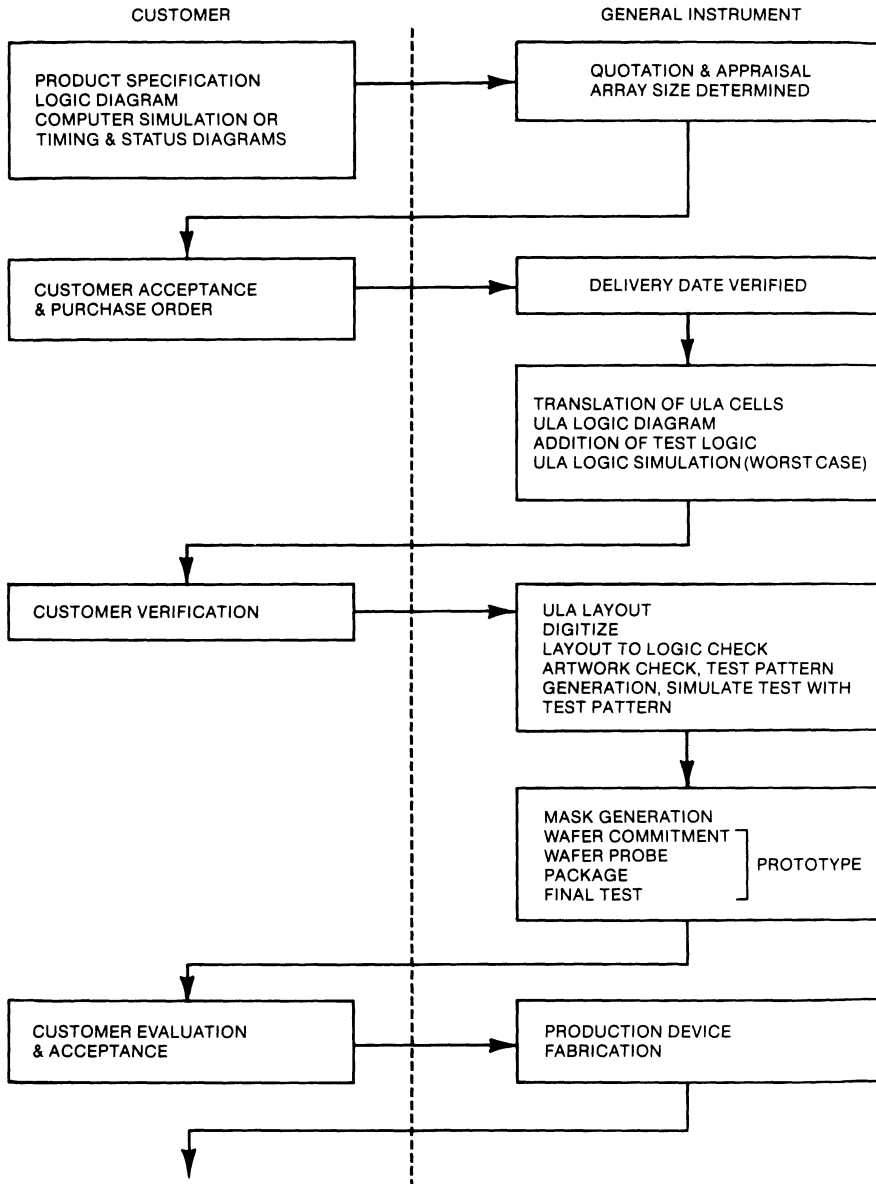

Fig. 8 DESIGN INTERFACE
- I) General Instrument designs the ULA from the customer's logic diagram. This interfacing route will follow the flow chart of Figure 8.